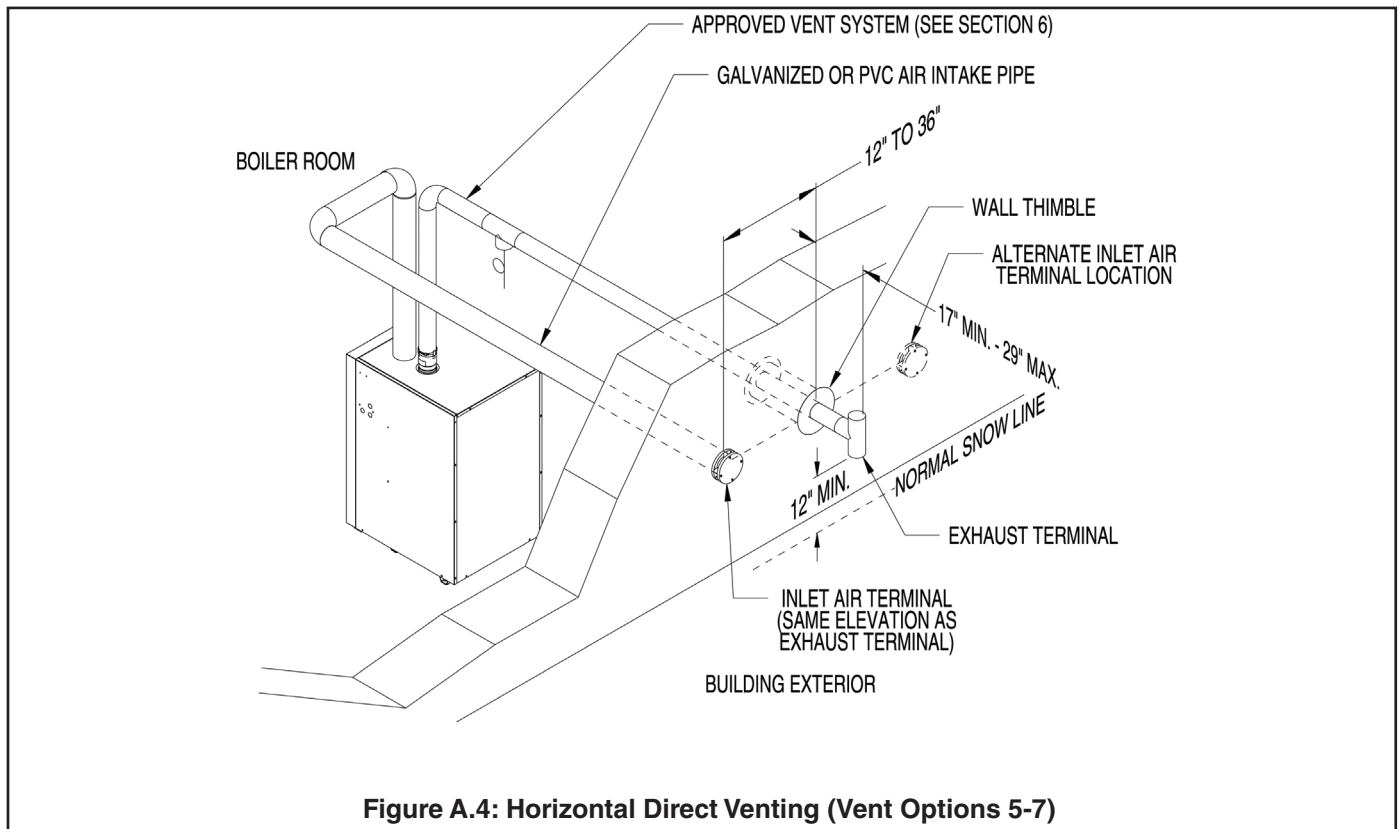

Figure A.4: Horizontal Direct Venting (Vent Options 5-7)
4. Horizontal terminal location – Install the intake terminal to either side of the exhaust terminal as shown in Figure A.4. The intake terminal must be on the same wall as the exhaust terminal. Maintain at least 12" from the intake terminal to the exhaust terminal as shown. Also note that when this kit is used, the exhaust terminal must be at least 1 foot from any door, window, or gravity inlet into the building. This is less than the 4ft clearance shown in Section 6 for boilers using indoor combustion air.